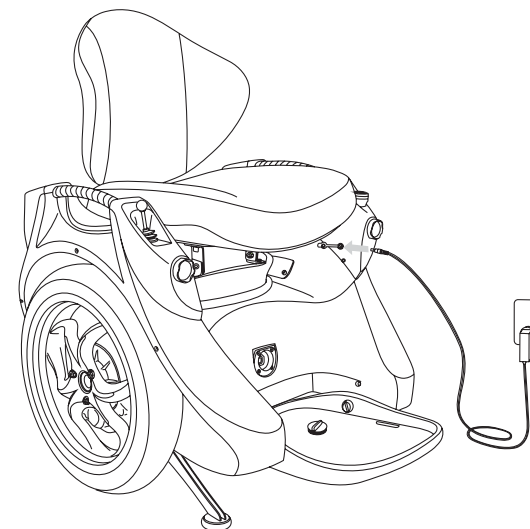

Figure 33: Charging your Omeo's Auxiliary Batteries.
2. Open the Auxiliary Battery Charge Port on the front of the Omeo (see **Figure 33**) and verify that the Auxiliary Battery Charge Port, along with the Auxiliary Battery Charger and AC Power outlet, are dry, clean, and free of any debris